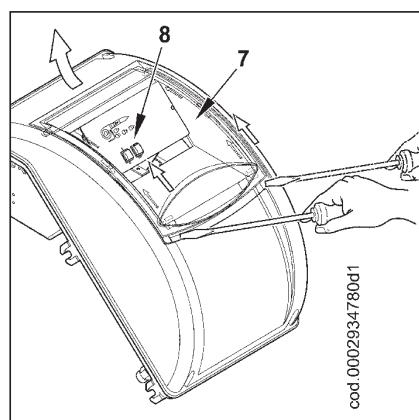

Figure 4
- To close the electrical panel lid, tighten the four screws (1) with a torque of about 5 Nm to ensure the correct seal. At this point to be able to access the control panel (8), unfasten the transparent door (7), using slight touch pressure with a tool (e.g. a screwdriver) in the direction of the arrows (fig. 4), move it the short distance to separate it from the lid.